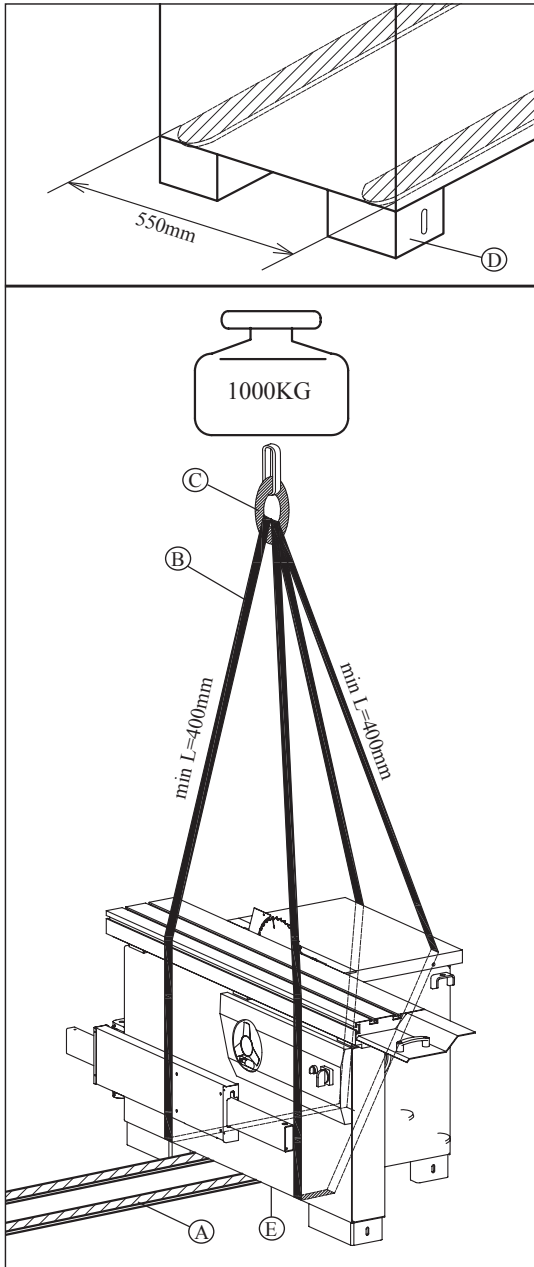

Fig. 4.2
Lifting may be carried out by bridge crane or self-propelled lift truck. Before starting the manoeuvres, free the machine of all the parts used for transport or Packaging that have remained on the machine. Check that the capacity of the lifting equipment is adequate for the gross weight of the machine indicated Fig. 4.2.
- Lift the slings and position them as is shown in the Fig.4.2.